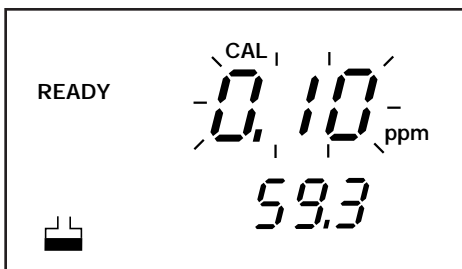

Figure 34
7. Press **ENTER** to confirm your calibration. The primary display will flash for a few seconds —See Figure 34. The meter will move on to the next calibration standard of **1.0 ppm**.